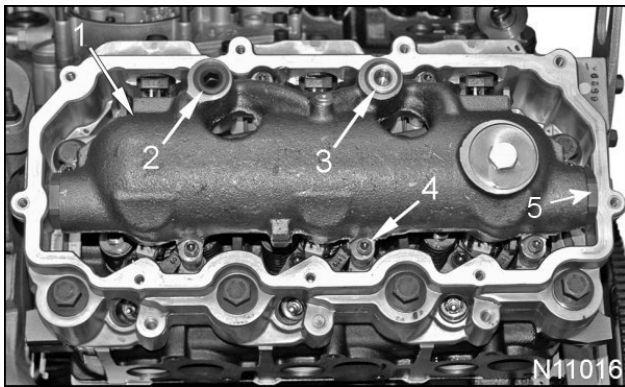

Figure 5 High-pressure oil rail plugs and crankcase-to-head tube assembly locations (left side shown)
The rail port plug and the crankcase-to-head tube plug are shown in Figure 5.
NOTE – Crankcase-to-head tube assembly (Figure 5, item 3) and the rail port plug (Figure 5, item 2) can be reversed, depending upon which side of the engine the high-pressure oil rail is being installed. The crankcase-to-head tube assembly should always be to the rear of the engine (high-pressure pump end) or to the rear of the rail port plug.